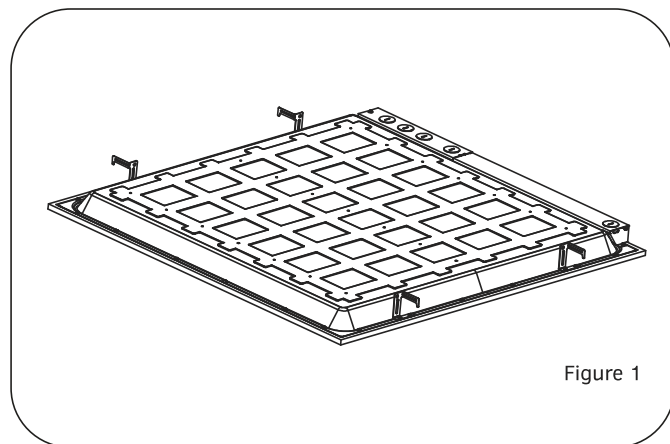

Figure 1
1. Replace the existing earthquake tabs with the provided brackets, used for attaching adjustable cables (Figure 1).